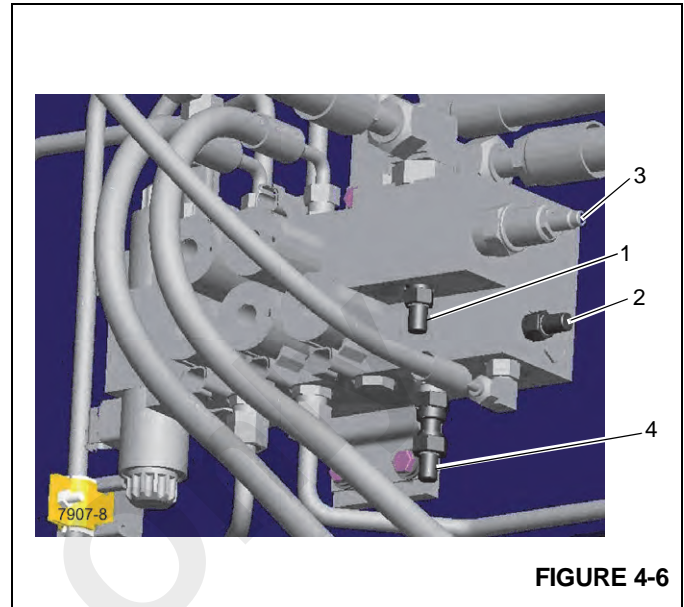

FIGURE 4-6
1. With the engine shut off, install a 0 - 344.73 bar (0-5000 psi) pressure gauge on the test port G1 (1, Figure 4-6).
1. With the engine shut off, install a 0 - 344.73 bar (0-5000 psi) pressure gauge on the test port (1, Figure 4-6).
1. Install a 0 - 344.73 bar (0-5000 psi) pressure gauge on the load sense test port GLS (2, Figure 4-6) located on the front outrigger manifold.
1. Shut off the engine. Install a 0 - 344.73 bar (0-5000 psi) pressure gauge to the front outrigger manifold test point G2 (4, Figure 4-6).
- a. Loosen the jam nut on the outrigger relief valve (3, Figure 4-6) at the front of the machine on the front outrigger housing. A 19 mm open end wrench is required for the jam nut.
1. With the engine off, install a 0 - 344.73 bar (0-5000 psi) pressure gauge on the load sense test port (2, Figure 4-6).